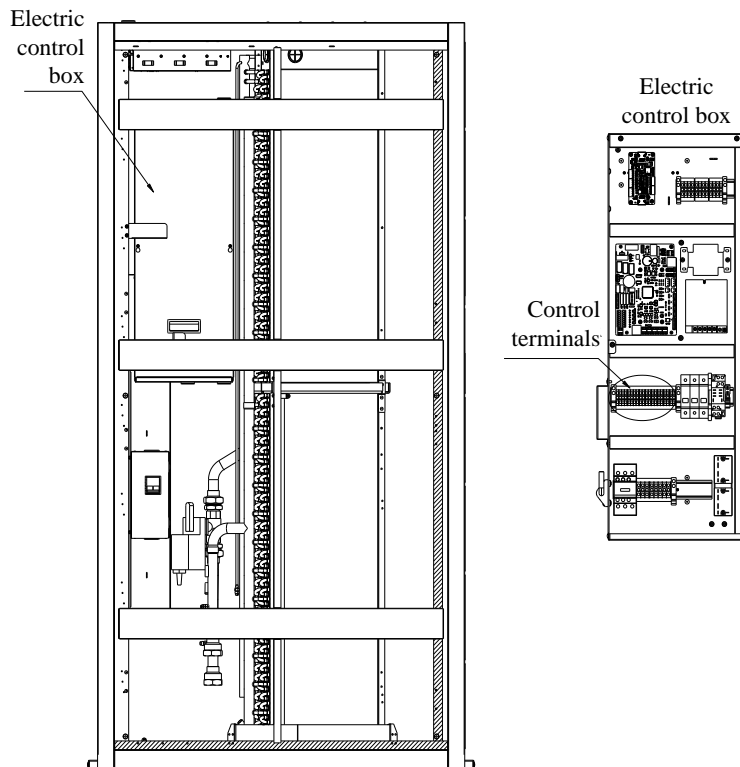
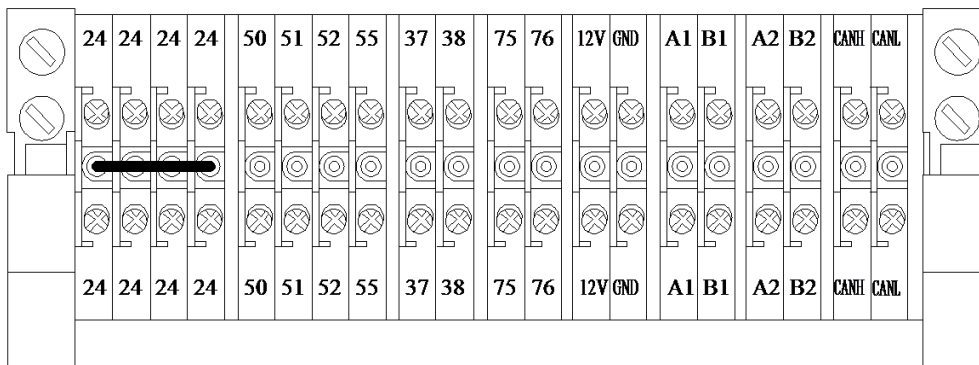

Figure 2-29 Position of Control Cables
Figure 2-30 Amplified Diagram of Control connections
The field connection terminals are shown in Figure 2-29 and the amplified diagram is shown in Figure 2-30.
- In figure 2-30, Terminals 75# and 76# can be connected to the external general alarms. The output signals to external alarm devices, such as an alarm indicator.